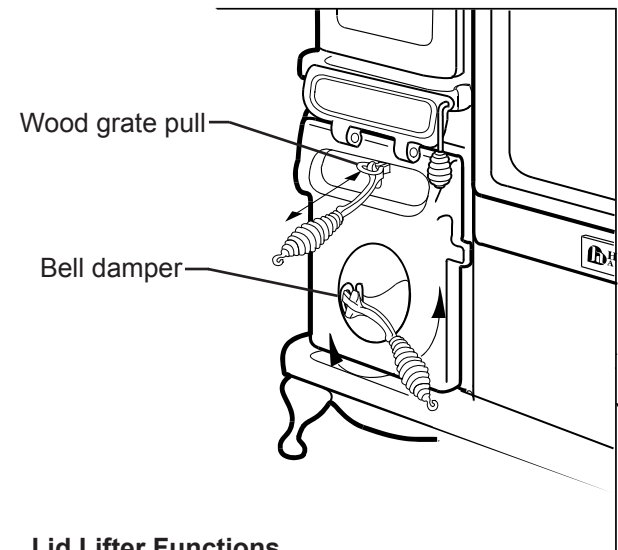

Figure 20
- Open the firedoor, ash pan door, woodgrate pull, bell dampers and oven damper with the 1415 lid lifter only—these surfaces get hot; (see figure 20 and 21).